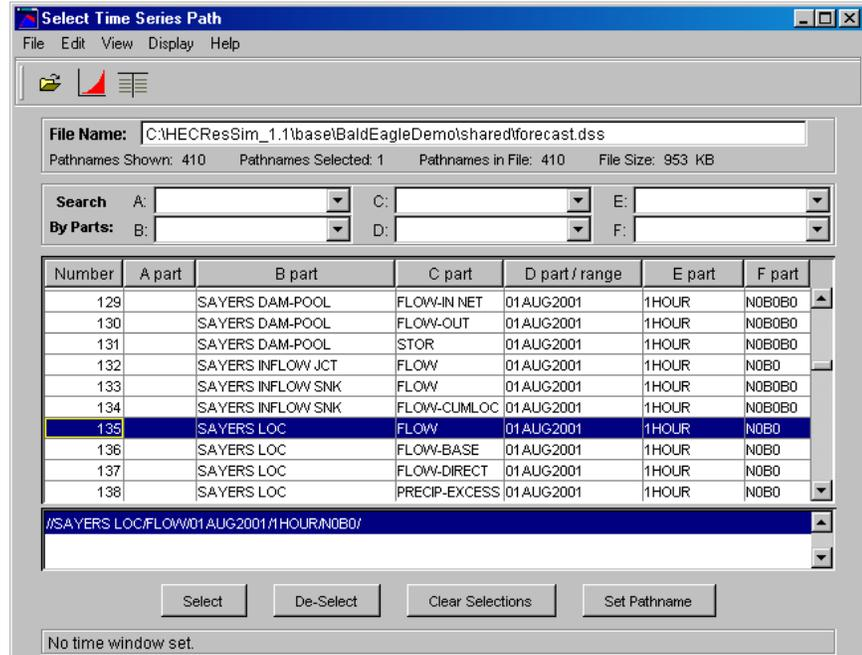

Figure 13.8 Select Time-Series Path Dialog Box
- Each row in the Time-Series table is a local flow location (specified in the Local Flow tab within the Junction editor in the Reservoir Network module), an element/parameter you have defined on the Lookback tab as Time Series, or a Time Series that is referenced in the Operation rules. Select each row, one at a time, and click the **Select DSS Path** button to access the **Select Time-Series Path** dialog box (Figure 13.8).
6. Select a record by double clicking on its name in the list. The selected pathname will appear in the box on the bottom of the Select Time-Series Path dialog box (as previously shown in Figure 13.8). You can also highlight a pathname in the list and click the **Select** button. Until you select a pathname, the **Select** button remains inactive.